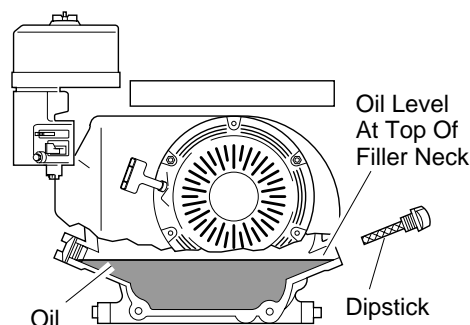

Figure 7 - Checking Oil Level (Model RGH5500 Shown)
1. Remove dipstick (see Figure 7). Wipe dipstick clean.
3. If level is low, fill to top of oil filler neck (see Figure 7). For Model RGH11000IE only, fill to top dot on dipstick. Only use oil recommended in engine owner's manual.